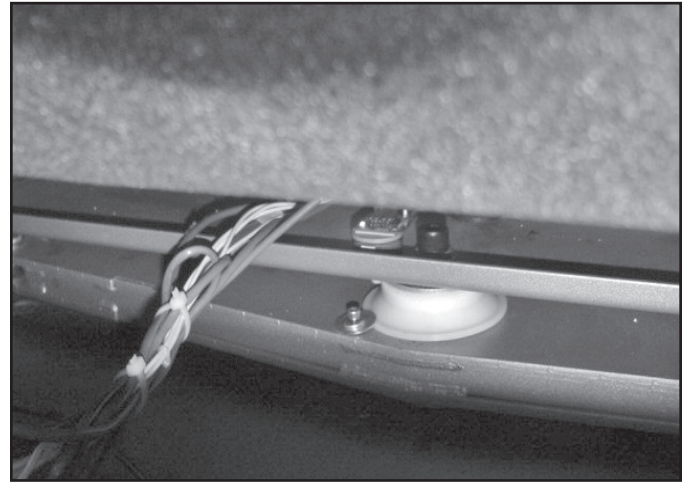

Figure B-1
- Slowly move the treadles up and down while looking at the encoder PCB mounted in the center of the dependency mechanism. There is a light on the PCB. Note the position of the treadles when the light on the PCB comes on. The treadles should be parallel within 1 inch (2.5 cm) of each other when the PCB light comes on (see Figure B-1).